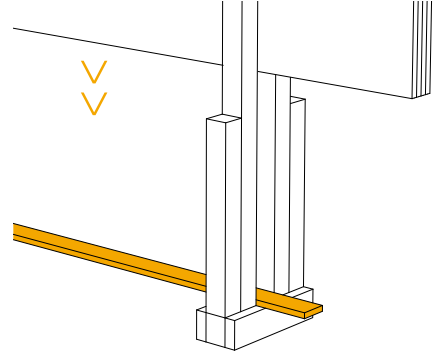
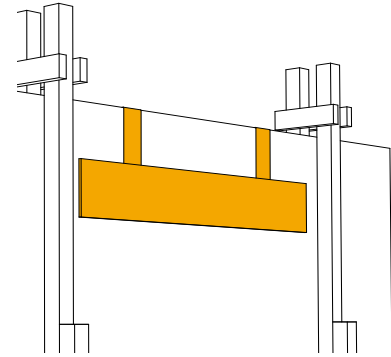

fig. 3
fig. 4
- Cardboard layer pads/wax rails positioned between each slab, to prevent any strain developing between the slabs and prevent them from knocking against each other (fig. 3);
- Protection for the outer edges (fig. 4);
It is also wise to place a wooden board over the feet of the structure on which the load is to be placed to protect the material when the bundled is lifted (fig. 3). So as not to damage the slabs during handling with chains, it is finally preferable to use 2 wooden boards to protect the surface (fig. 4).
- Lid bears drawing showing all the product-related information (fig. 3);
- Shrink-wrapping (fig. 4).